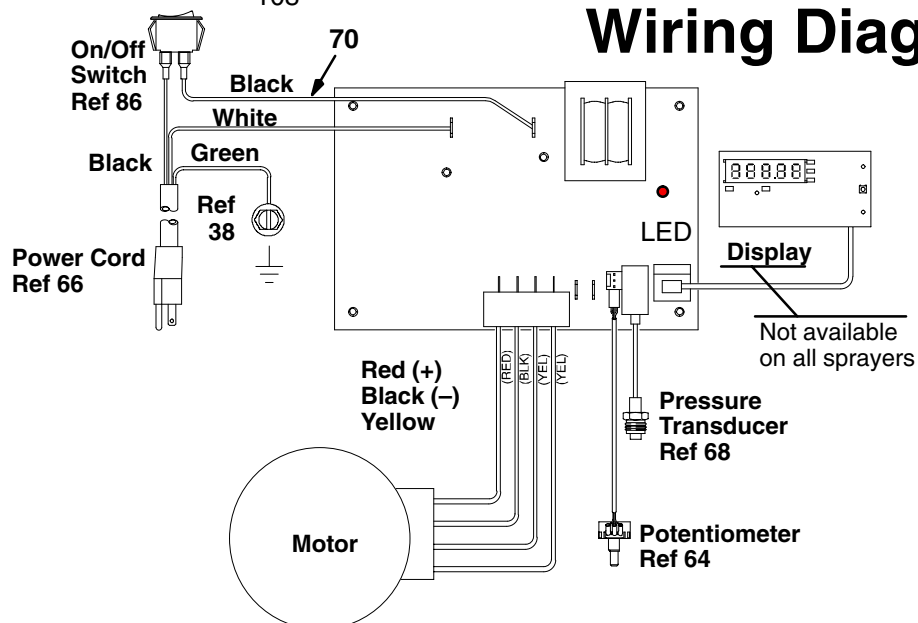
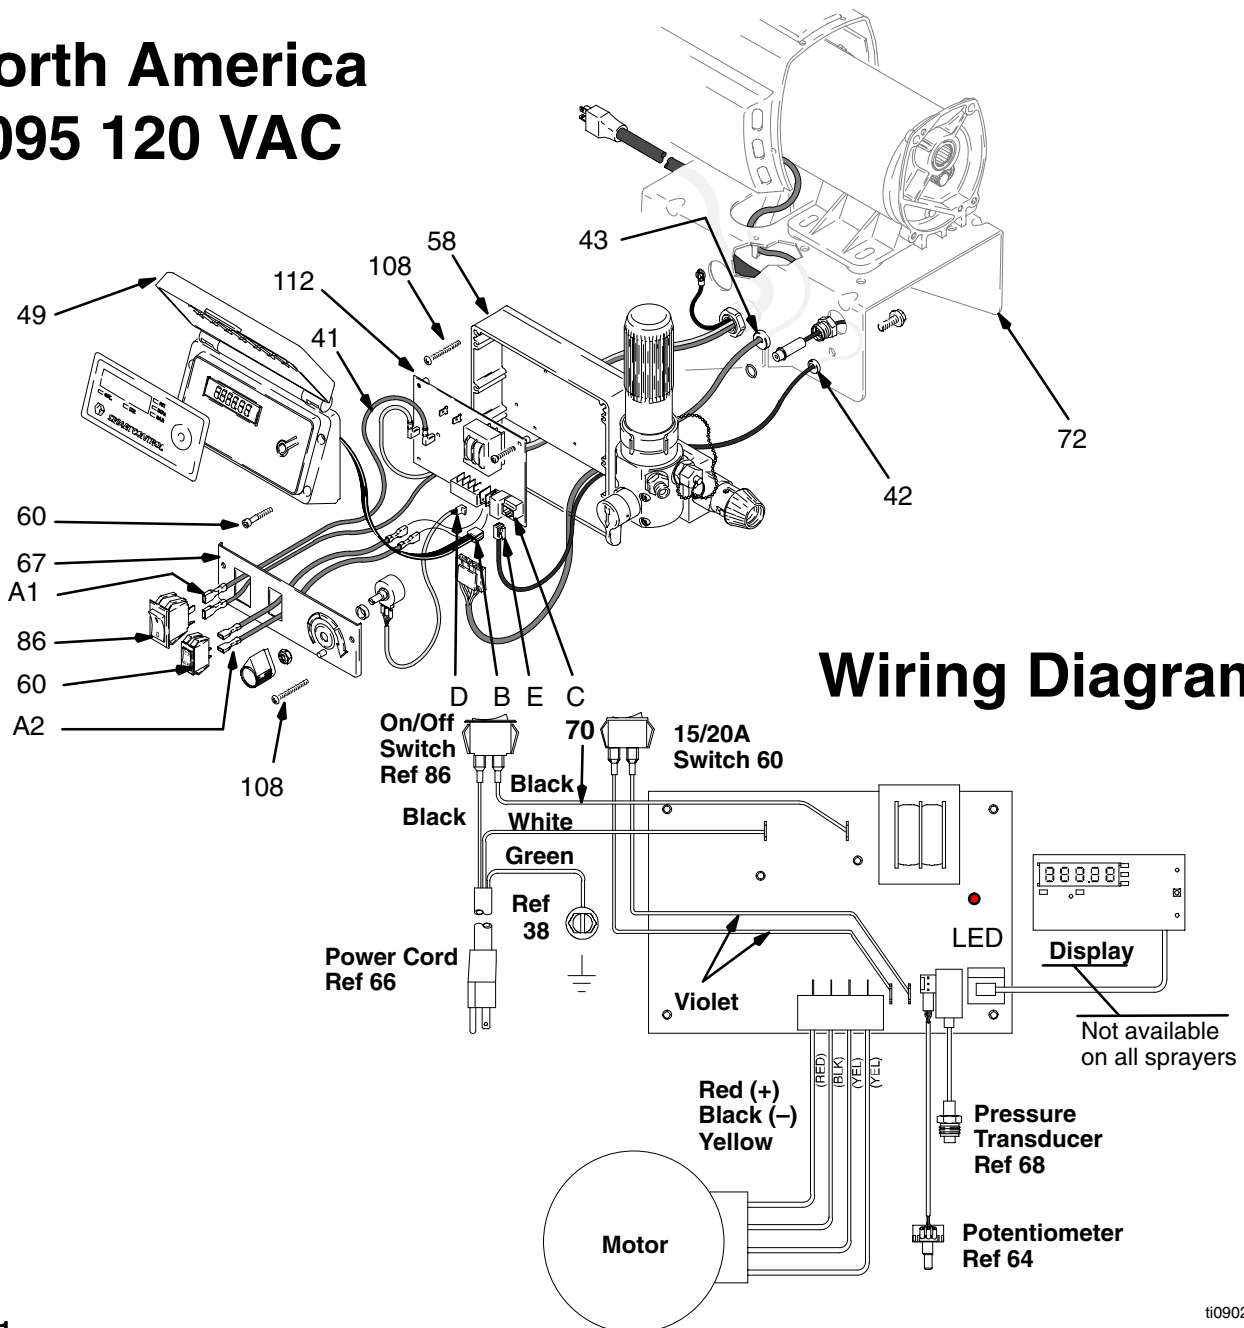

Fig. 10
Fig. 11
2. Fig. 10. Remove four screws (60) and pressure control cover (49). Disconnect display connector (B) (not available on all sprayers).
3. Remove two screws (108) and control panel (67).
4. Disconnect two wires (A) from ON/OFF switch (86).
5. Squeeze inside tabs on ON/OFF switch (86) and remove from control panel (67).
2. Fig. 11. Remove four screws (60) and pressure control cover (49). Disconnect display connector (B).
4. Disconnect two wires (A1) from ON/OFF switch (86).
6. Disconnect two wires (A2) from 15/20A switch (86).
7. Squeeze inside tabs on 15/20A switch (60) and remove from control panel (67).
Refer to Fig. 10, 11 or 12 depending on sprayer and voltage.
- Fig. 10. Install motor control board (112) with six screws (41).
- Connect to motor control board (112):
- Lead (E) to transducer.
- Lead (D) to potentiometer.
- Route loose wires so none lay in contact with inductor coil on filter board (not 120 Vac sprayers). See **Wiring Diagram CAUTION**, Fig. 11.
- Install control panel (67) with two screws (108).
- Install display connector (B). Install pressure control cover (49) with four screws (60).
- Fig. 10. Remove four screws (60) and cover (49). Disconnect display cable (B).